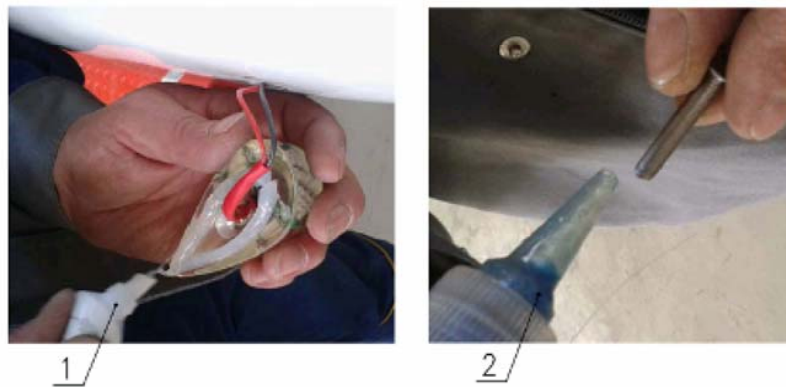

Fig. 33-40-7
2	Put the silicone on the contact surface of the position light with the winglet as shown on Fig. 33-40-7.
3	Put the Bonding liquid middle strength on the bolt thread item 3 as shown on Fig. 33-40-7.